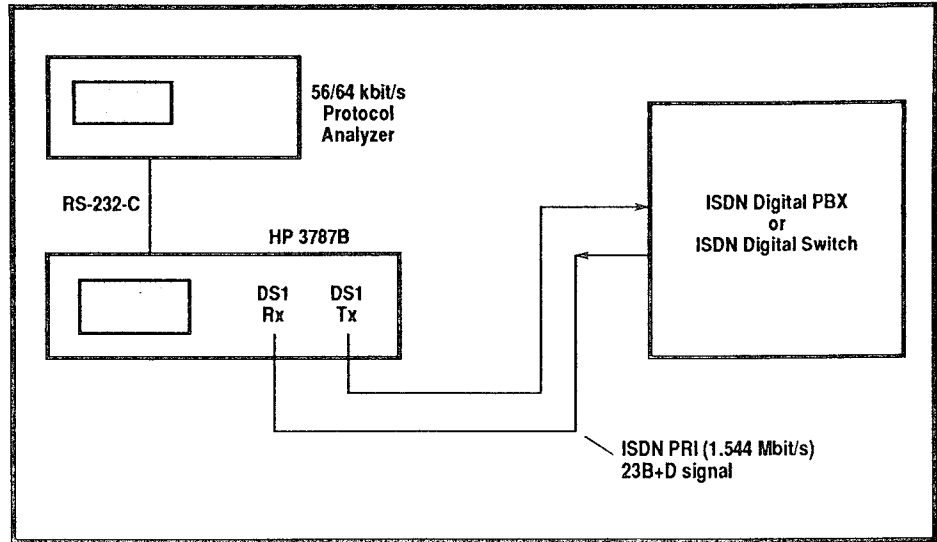

Figure 2 Installation test configuration
1. Connect the HP 3787B to the unit under test as shown in Figure 2.